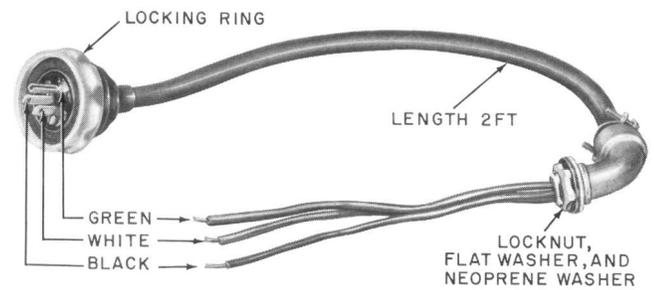

Fig. 4—KS-19580, List 30 Power Cord Assembly
2.12 A KS-19580, List 30 power cord assembly (Fig. 4) is used to bring overhead power into an *outdoor* booth.